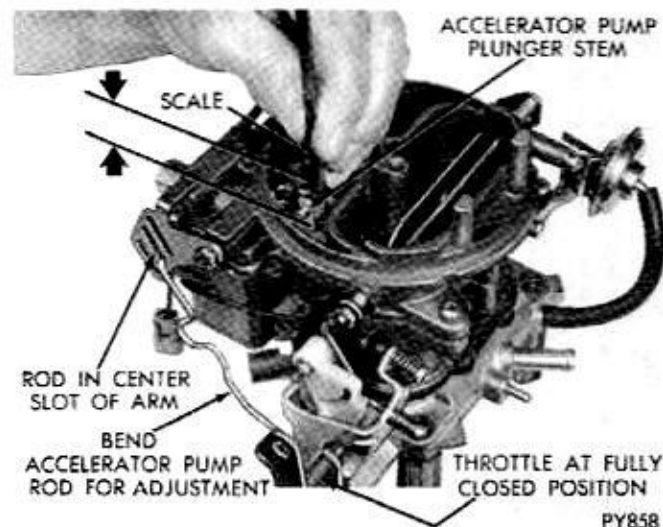

Fig. 24—Accelerator Pump Adjustment
- (1) Back off curb idle speed adjusting screw. Open choke valve so that fast idle cam allows throttle valves to be completely seated in bores. Be sure that pump connector rod is installed in center slot of accelerator pump rocker arm.
- (2) Close throttle valves tightly. Measure the distance between top of air horn and end of plunger shaft, (Fig. 24). This measurement should be 9/16 inch.
- (3) To adjust pump travel, bend pump operating rod, using Tool T109-213, at loop of rod, until correct setting has been obtained.